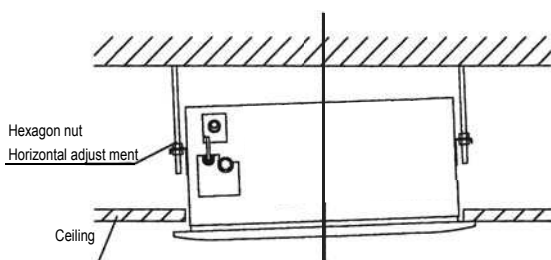

Fig. 5-14
- If the gap between the panel and ceiling still exists after fastening the screws, the height of the indoor unit should be modified again. (Refer to Fig. 5-14-left)
- You can modify the height of the indoor unit through the openings on the panel's four corners, if the lift of the indoor unit and the drainpipe is not influenced (Refer to Fig. 5-14-right).